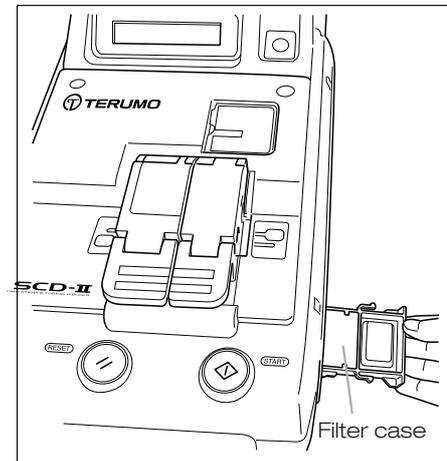

Figure 20
1. Pull out the filter case from the bottom of the TSCD®-II and take away present filter in the filter case (See Figure 20).